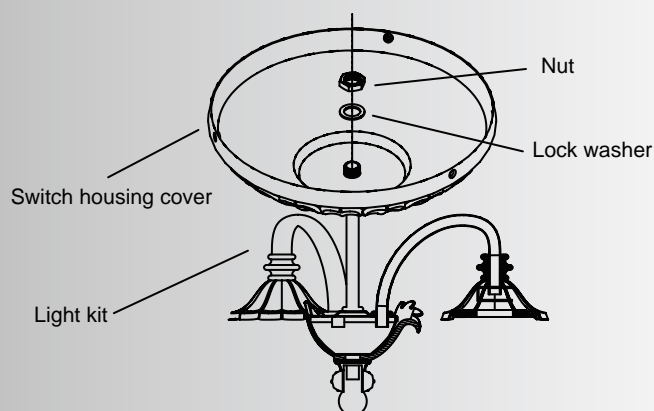

Fig. 1
1. Take the fixture out of the box and packing foam. Remove the Switch Housing cover from your Ceiling Fan. Remove the decorative plate, decorative ball and finial from it. Thread the Light Fixture into the hole in the center of the Switch Housing cover. On the inside of the Switch Housing cover, add a lock washer and nut to the Light Fixture and tighten. (Fig. 1)